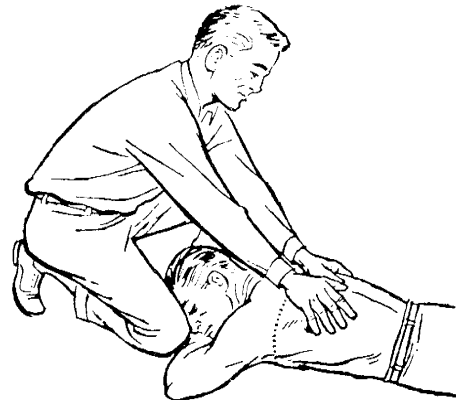

Fig. 18—Compression Phase
- (c) Take it easy! Rock forward until the arms are approximately vertical and allow the weight of the upper part of your body to exert slow, steady, even pressure downward upon the hands. This forces air out of the lungs. Your elbows should be kept straight and the pressure exerted almost directly downward on the back. You do not need much pressure. (Fig. 18.)